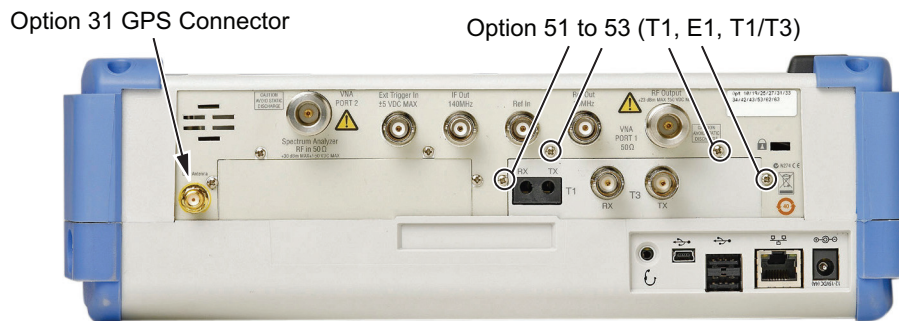

Figure 7-1. Option 31 or Option 51 to 53
2. **Units with Option 31:** Carefully loosen and remove the lock nut and washer from the GPS SMA connector. Carefully push the SMA into the case (Figure 7-1).
3. **Units with Option 51, 52, or 53:** Use a Phillips screwdriver to remove the four screws securing the option face plate to the top of the instrument (Figure 7-1).